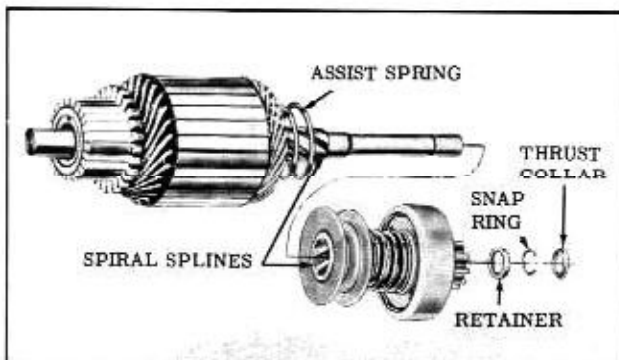

Fig. 13-39 Armature and Clutch
- a. Remove thrust collar from armature shaft. (Fig. 13-39)
- b. Slide clutch assembly onto armature shaft with pinion away from armature. (Fig. 13-39)